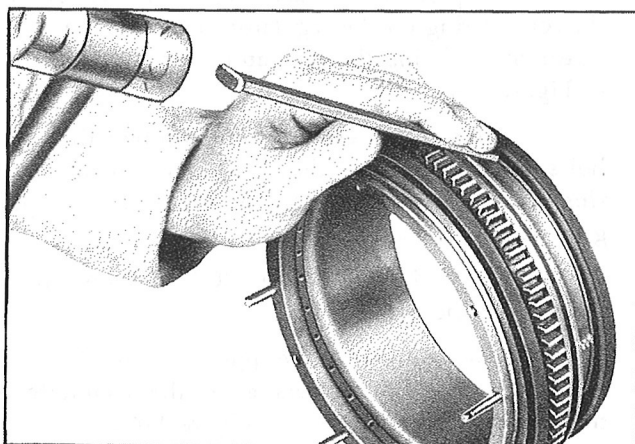

Figure 178—Removal of Seals from Regulator Gear, Models A632S-A1, -A2
a. Remove the housing seal and the cover seal from the regulator gear, tapping with a square-end fiber or brass drift, as shown in Figure 178.